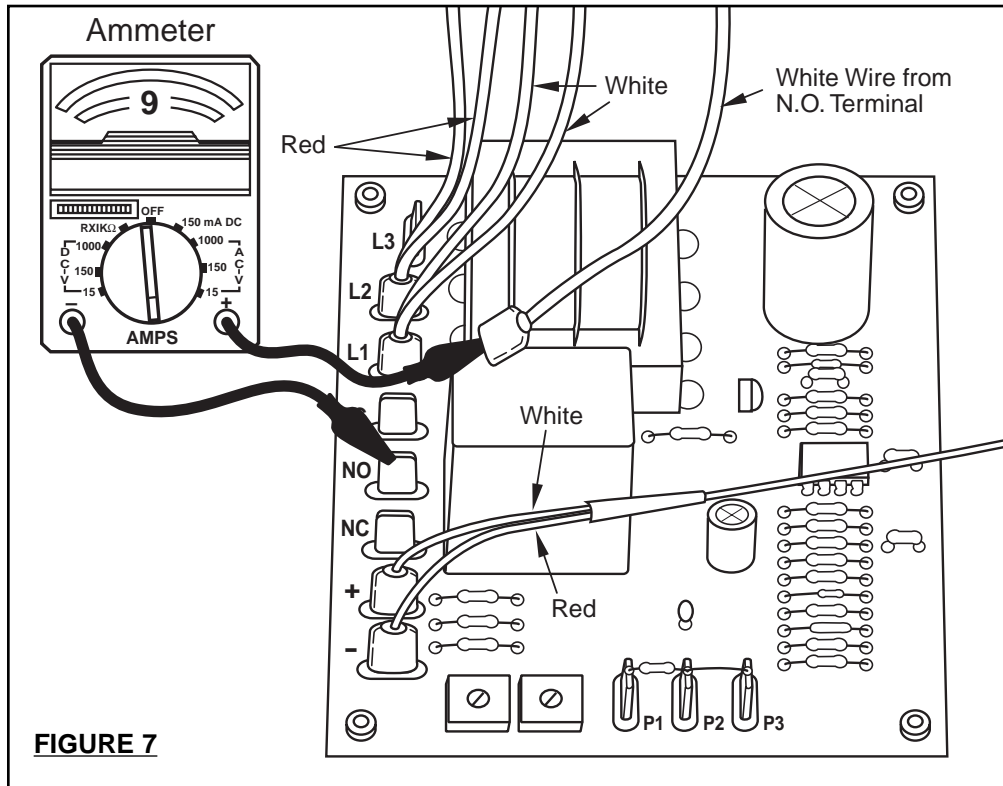

FIGURE 7
(B) Connect an ammeter “in series” between the white wire from the N.O. terminal and the N.O. terminal. Refer to Figure 7 below.